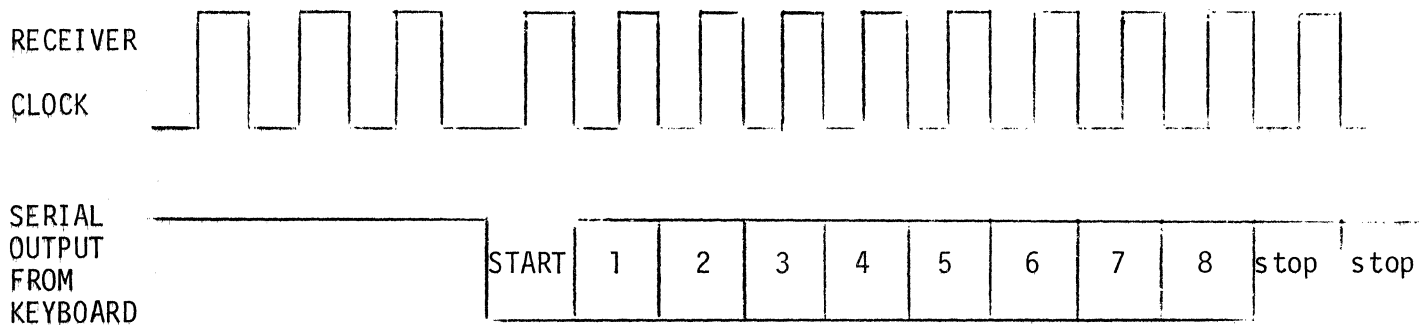

Figure 9. ASYNCHRONOUS SERIAL INTERFACE RECEIVER TIMING
The START bit is used to synchronize the receiver system clock which then runs free at a rate close enough to the sending system rate to allow eight (8) data bits to be CLOCKED into the receiving system. Timing for the receiver is shown in Figure 9.